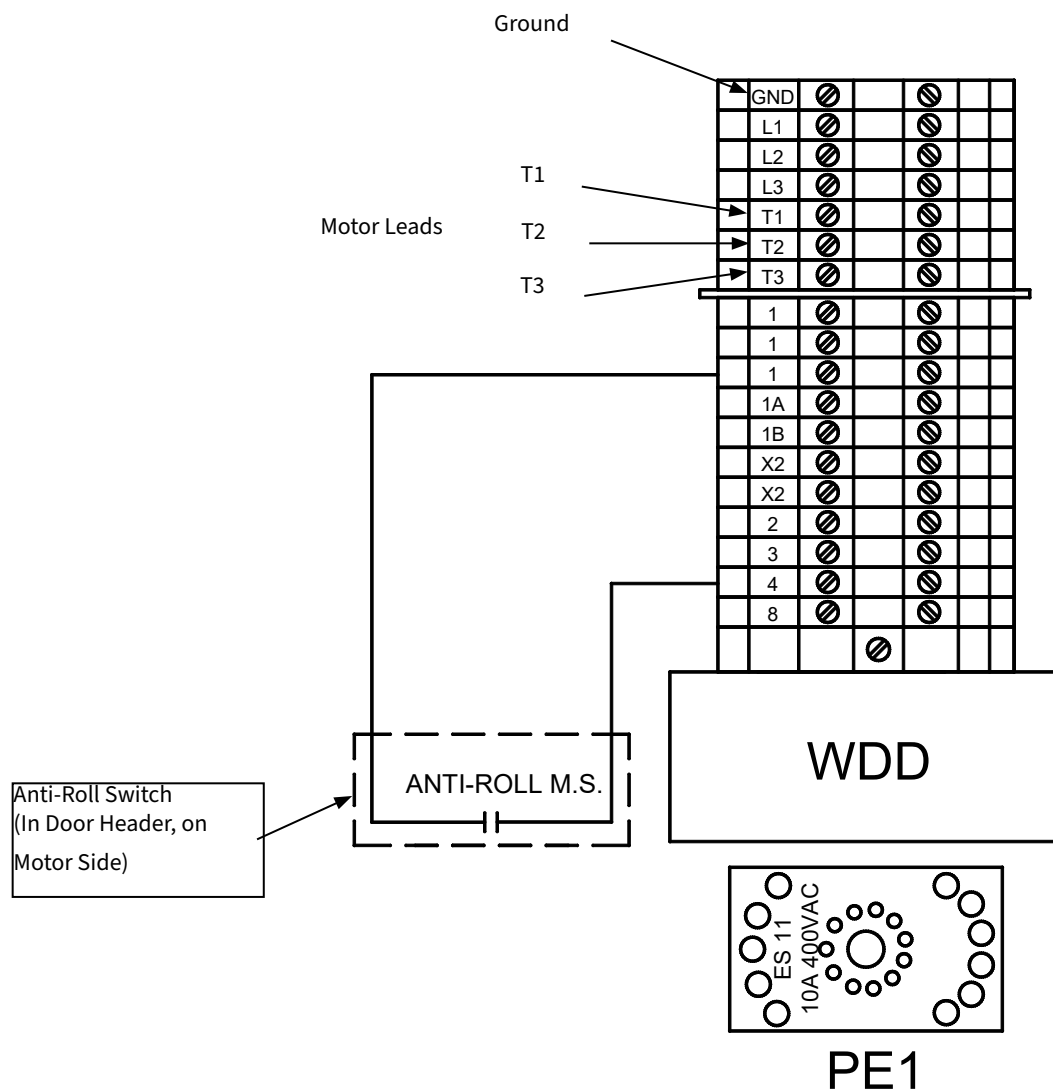

Figure 19: Ground Connections on Terminal Block
1. Connect the grounding wire (ground wires and shield wire) to the ground terminals. (See Figure 19)